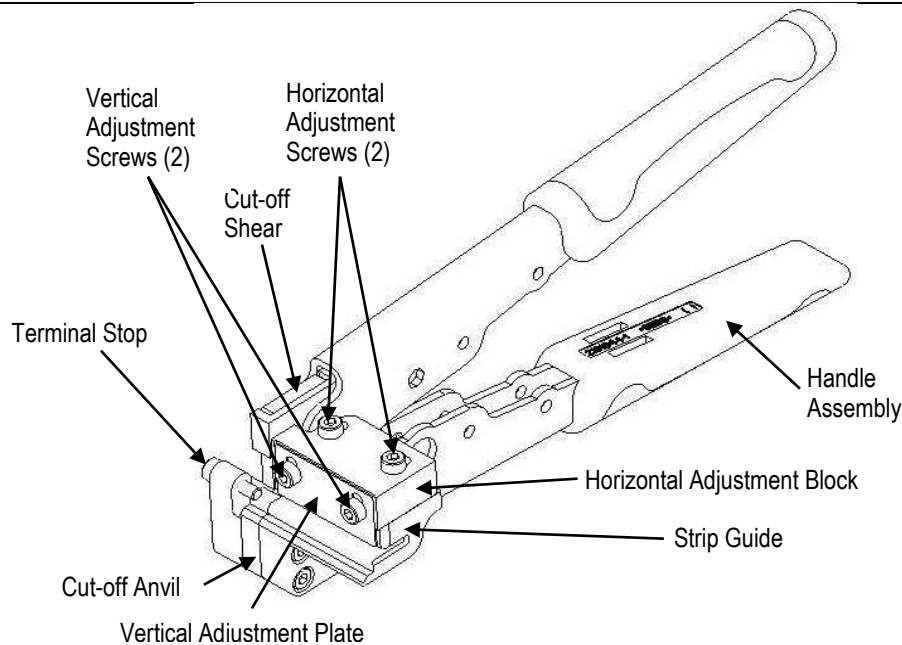

Figure 1
- The tool is comprised of a Handle Assembly, Cut-off Anvil, Cut-off Shear, Strip Guide, Horizontal Adjustment Block, Vertical Adjustment Plate, and Terminal Stop (reference Figure 1).